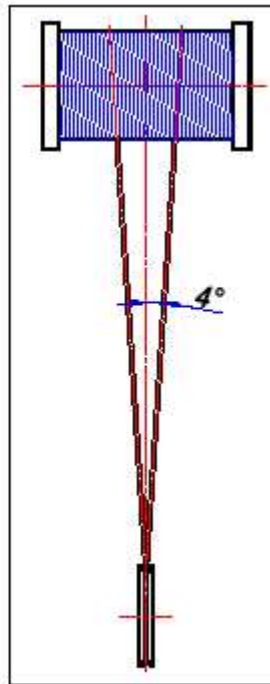

Fig. 6
- Each time that the rope fits into a pulley, as well as wrapping itself around it, it completes a flexion (deflexion) angle because of which it has to rotate on its axis before reaching the end of the race. In general the angle of deflexion should not exceed 4° in order to avoid distortion to the rope. (fig. 6)